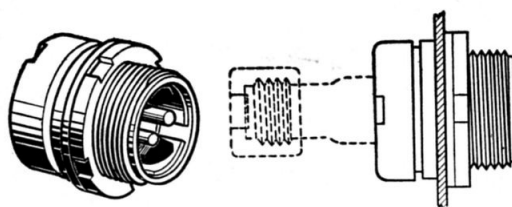

Fig. 4. Typical panel mounting coupler (plug)
8. A typical mounting coupler is illustrated in fig. 4, and the complete range is shown in Table 4. These items mate with the free units listed in Table 1.